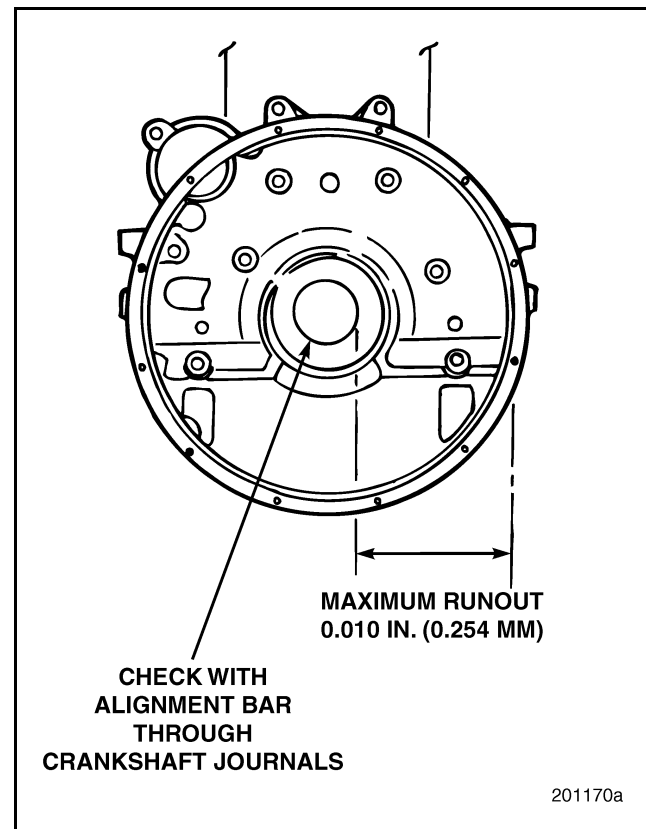

Figure 250 — Flywheel Housing Runout Check with Alignment Bar
- Runout checked with an alignment bar installed through the cylinder block main bearing bores: 0.010 inch (0.254 mm) TIR maximum. Refer to Figure 250.